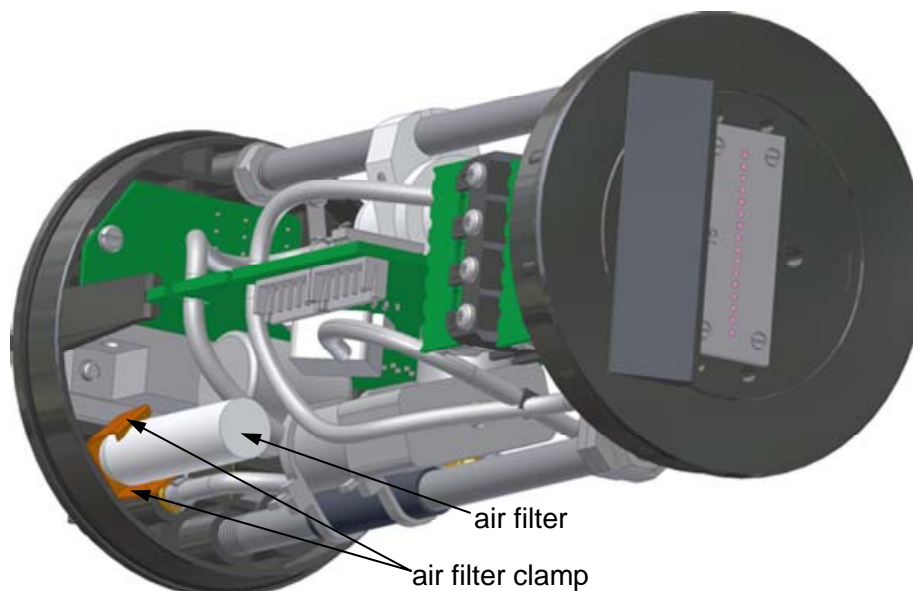

Fig. 4.1.2.1.
- b). Remove the filter from the clamp (see Fig. 4.1.2.1),